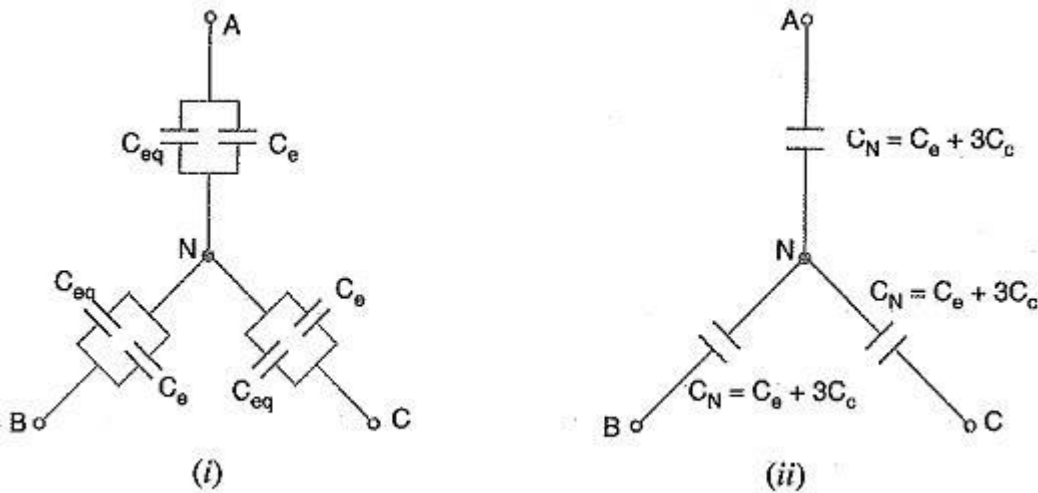

Fig. 11.20
**(iii) reduces to the equivalent circuit shown in Fig. 11.20 (i).**
Therefore, the whole cable is equivalent to three star-connected capacitors each of Capacitance of 3 Core Cables [See Fig. 11.20 (ii)],